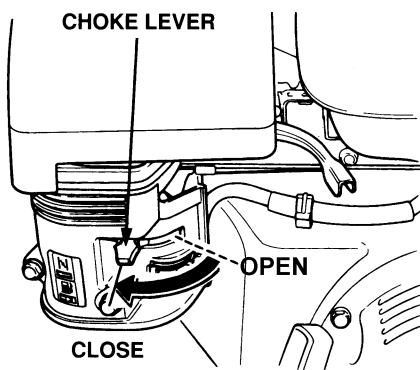

Figure 18. Choke Lever
- Place the **Choke Lever** (Figure 18) in the "CLOSED" position.